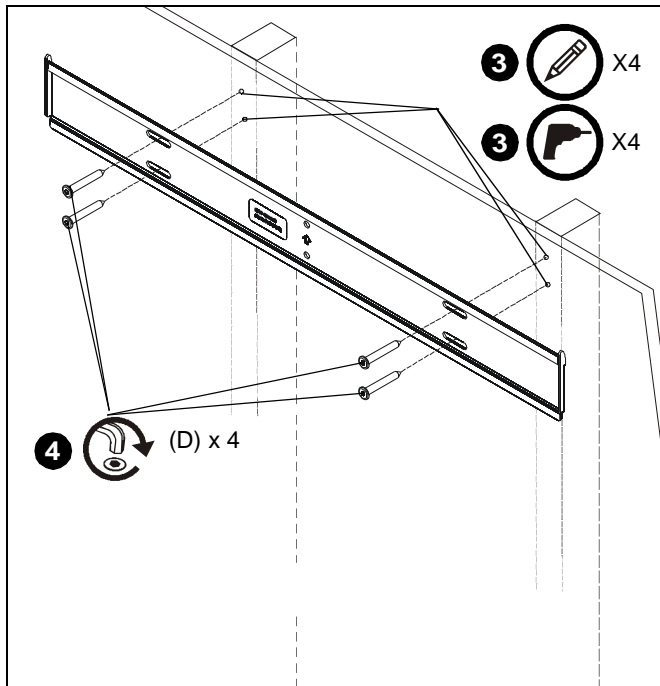

Figure 1
3. Using wall plate as template, mark and then drill four 3/16" diameter pilot holes through making sure the holes are centered in the middle of each stud. Holes must be drilled at least 2-1/4" deep. (See Figure 1)
4. Install four connector screws (D) through wall plate and into pilot holes using M4 Allen Head bit (C). (See Figure 1)